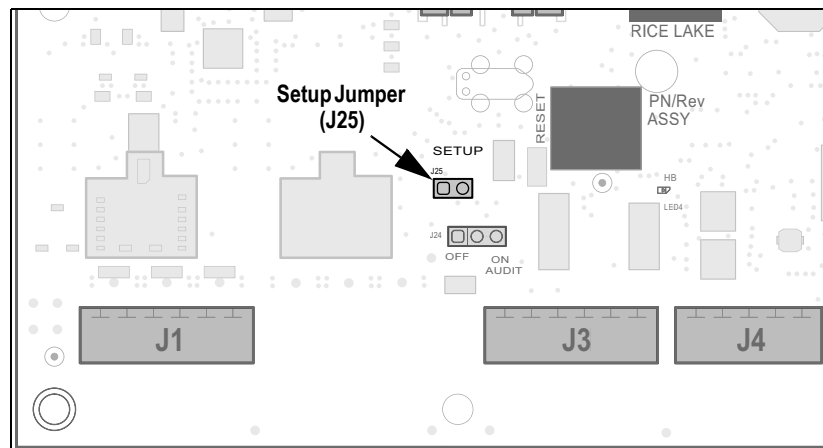

Figure 4-1. Setup Jumper Location on CPU Board
1. Access setup mode via the setup jumper (Figure 4-1 on page 21). $CONF, U$ displays.